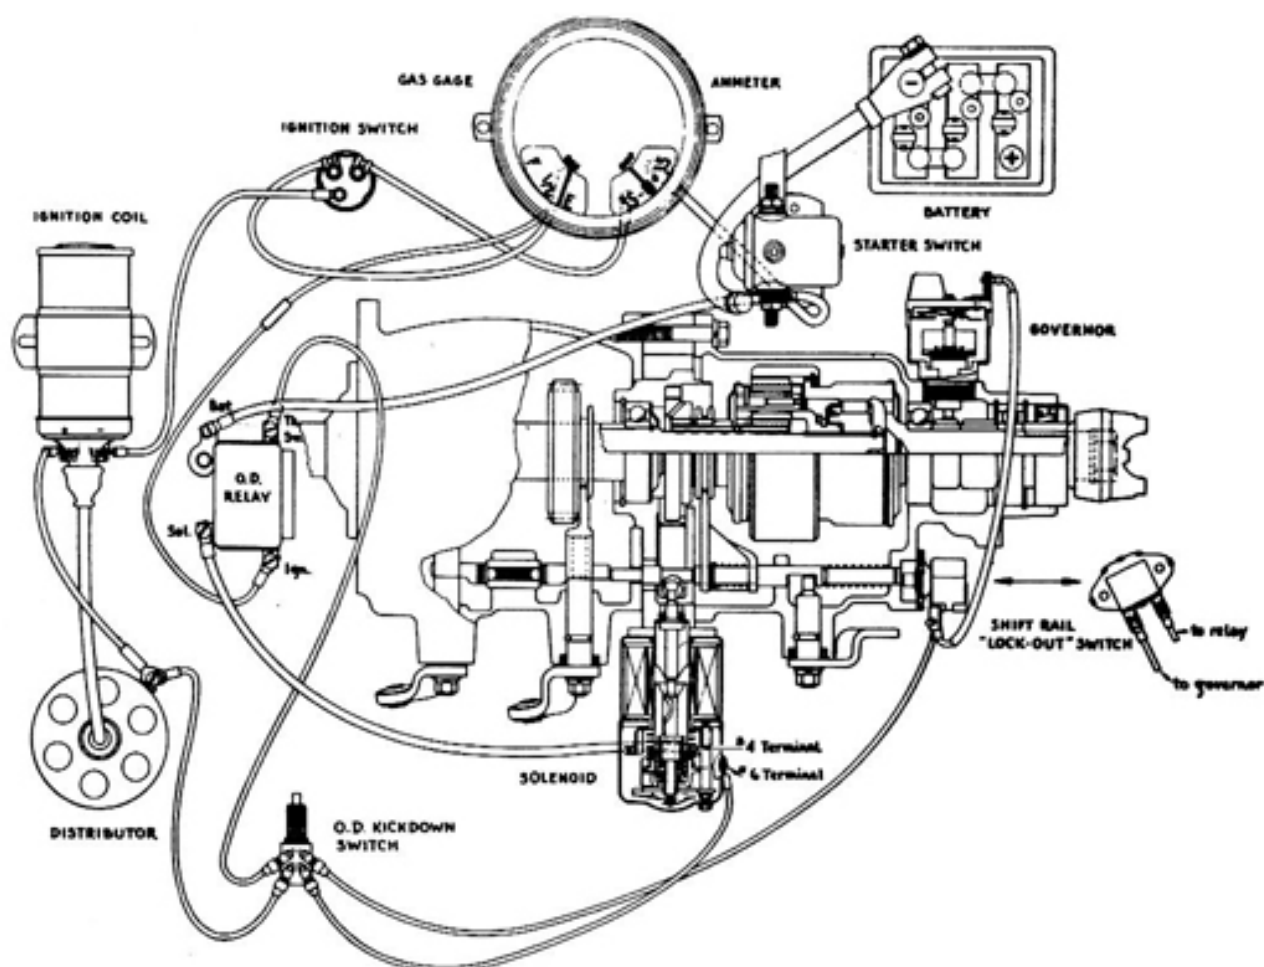

Figure 9.
a. While the mechanical structure of the overdrive unit, just described, may be considered the working portion of the combination, its automatic action is controlled entirely by the external electrical control system. This system consists of certain units, connected by a wiring circuit. Whereas, the electrical units are practically identical for the various makes and models of cars with overdrive equipment, there are variations in the wiring circuit. The wiring circuit as shown in the diagram (Fig. 9) applies as shown on 1949 Studebaker, Kaiser, Frazer, Willys and Nash cars (the latter with relay terminals marked "2" instead of "Th Sw", and "1" instead of "Sol"). It applies on 1949 Ford, Mercury and Lincoln cars except that the "Ign" and "Bat" terminals are combined and connected to the ignition switch. It applies on the 1949 Packard cars excepting that the lockout switch is in the circuit between the relay and ignition switch instead of between the relay and governor. 1949 Hudson cars employ a circuit, which while broadly similar in operating principles, is sufficiently different that Fig. 9 does not apply, and the reader is referred to the current Hudson's dealer's service manual, for specific information on this circuit.
- k. Improperly wired (14-a, Fig. 9).
- f. Improperly wired (14-a; Fig. 9).
- c. Open or missing connection between solenoid No. 6 terminal and distributor (20-a; Fig. 9).